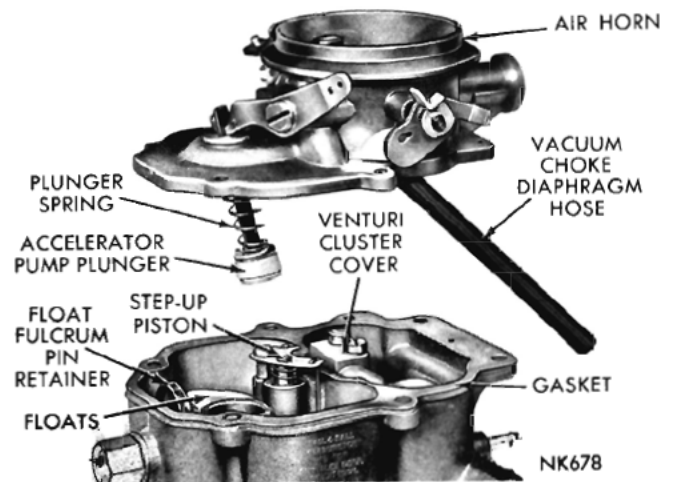

Fig. 2—Removing or Installing Air Horn
(6) Remove the choke vacuum diaphragm and bracket assembly and place to one side to be cleaned as a special item. **A liquid cleaner may damage the diaphragm material.**
(7) Remove the air horn retaining screws and lift air horn straight up and away from main body, as shown in (Fig. 2). Discard the gasket.
(8) Disengage the accelerator pump plunger from the rocker arm by pushing up on the bottom of plunger and sliding plunger shaft off hook. Slide plunger out of air horn and remove the bowl vent valve, spring seat and spring.